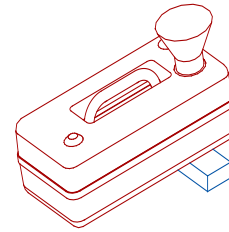

Figure 3-2.
2. Place a funnel into the opening and pour a loosely mixed, flowing concrete into the box. Funnel may require slitting to fit opening of Ballast Block. To achieve the required Ballast Block weight of 50 pounds, fill it completely by positioning it on an angle. See Figure 3-2.